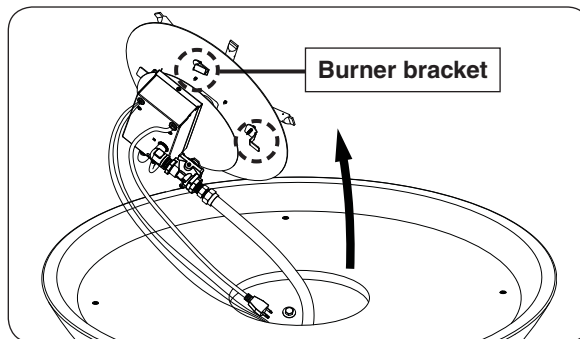

Fig. 48-1 Remove burner assy (if needed)
1. Use a $\frac{5}{16}$ " nut driver to partially unfasten the four screws found on the burner assembly. Then remove the burner and set it off to the side. See Fig. 48-1.